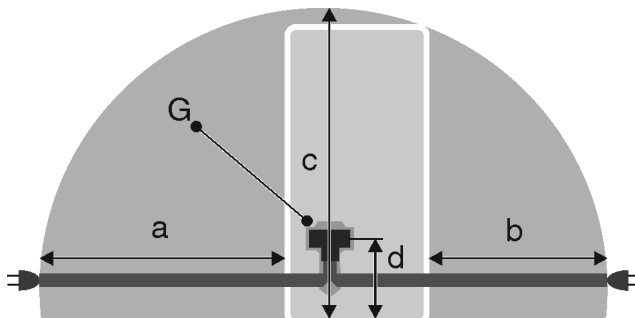

Fig. 25
- The socket is outside the back of the appliance area in the specified area *Fig. 25 (a, b, c)*.
- ▶ Insert the appliance plug *Fig. 25 (G)* into the back of the appliance. Ensure that it clicks into place.